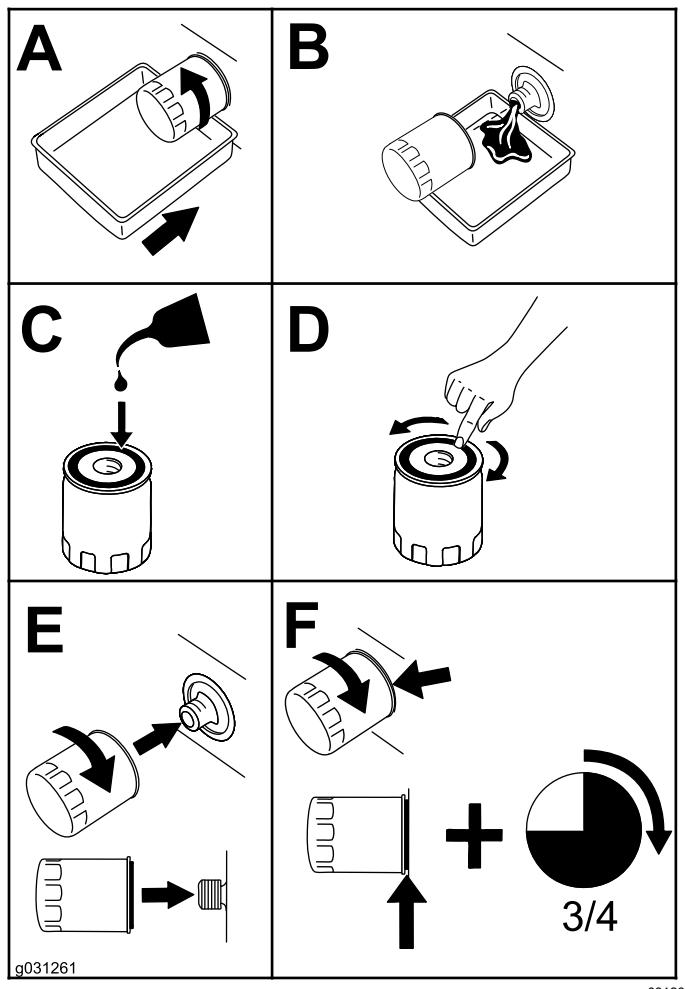

Figure 94
4. Change the engine-oil filter (Figure 94).